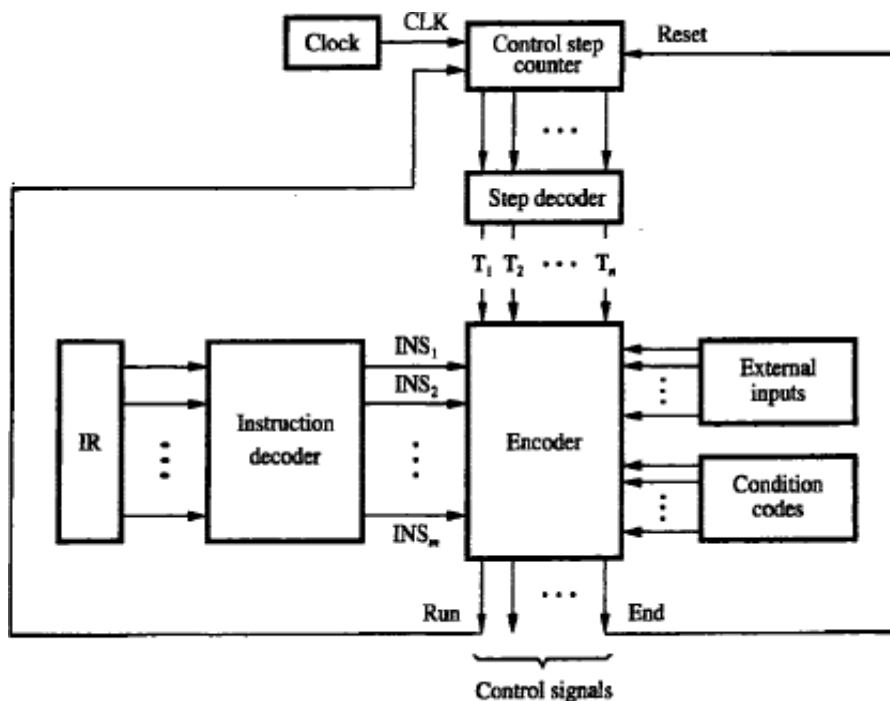

Figure 7.11 Separation of the decoding and encoding functions.
- Hardwired control is a method of control unit design (Figure 7.11).